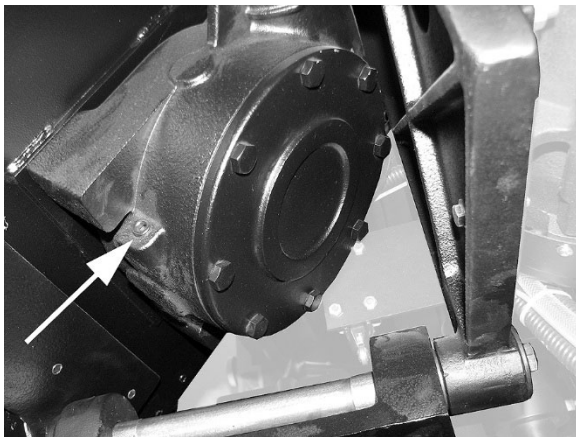

Figure 11-2: gear box drain plug
2. Unscrew and remove drain plug (Figure 11-2), and allow lubricant to drain completely. Follow local regulations for proper disposal of used oil.